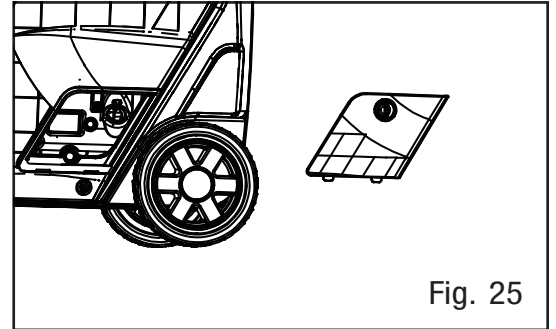

Fig. 25
2. Unscrew the oil access cover knob, and remove the cover from the side panel (Fig. 25).